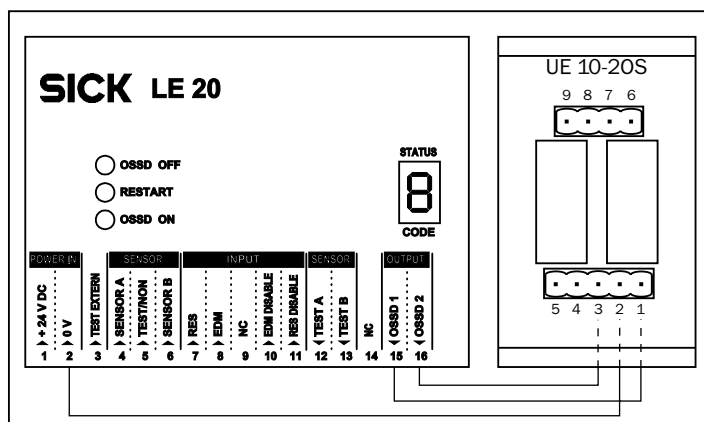

Fig. 3-5: Safety evaluation unit LE 20 with relay module UE 10-20S
①=Pallet ②=Material ③=Muting sensor ④=Transport plane
4. Since the internal evaluation of the sensor signals is not instantaneous, the material must not be detected too closely in front of the light beams of the photoelectric safety switch. A minimum distance must be observed (see Fig. 3-5).